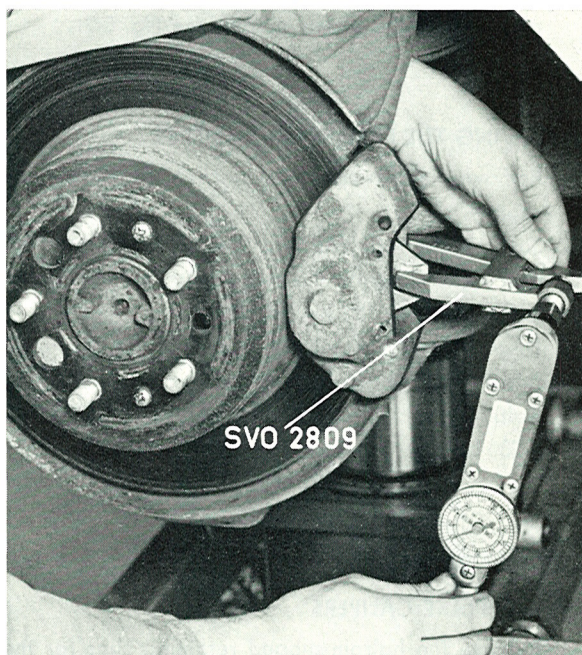

Fig. 5-17. Pushing in the piston
1. Carefully clean out the cavity in which the pads fit. If any of the rubber dust covers are damaged, replace them. If dirt has penetrated into the cylinder due to a damaged cover, the brake unit should be reconditioned. To provide room for the new brake pads, the pistons must be pushed into the cylinders. Tool SVO 2809, see Fig. 5-17, is used
for pushing in the pistons. A torque wrench should also be used, see Fig. 5-17. The torque required should be between 20—80 kpcm (17—70 lb.in.). If greater torque has to be applied, recondition the caliper.
3. Push in the piston with tool SVO 2809 torque wrench, see Fig. 5-17. The torque required should be between 20—80 kpcm (17—70 lb.in.) If greater